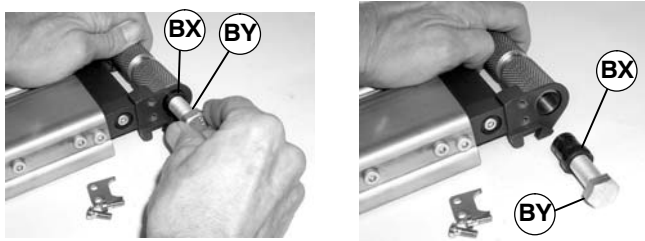

Figure 39
3. Install bolt (part # 906-278†) (BY of Figure 39) into retaining sleeve (BX). Pull out on bolt to remove retaining sleeve.